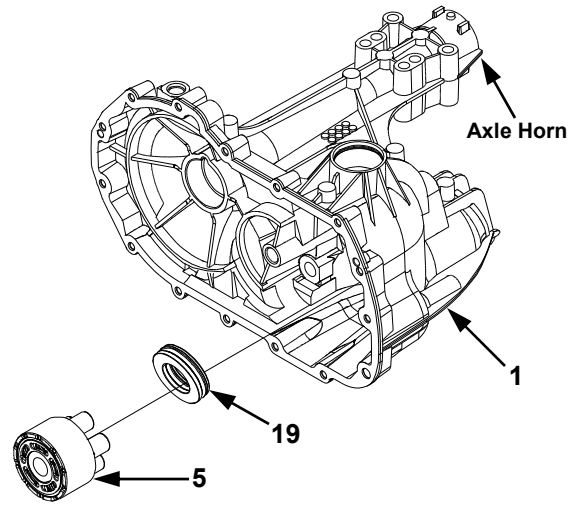

Figure 22
20. **(See Fig. 22)** Remove the motor cylinder block assembly (5) from the housing (1).
21. Disassemble the motor cylinder block assembly (5). Check each piston for proper operation by pressing the pistons in and releasing them in the block bore. Disassemble the motor cylinder block. Check for piston/block wear in the cylinder bore. Inspect the pistons, piston springs and piston
1. (See Fig. 22) Turn the housing (1) so the axle horn is pointing down. This will assist in the installation of the thrust bearing assembly (19) keeping it in the bearing cavity during installation of the center section assembly.
2. Insert the thrust bearing (19) in the housing (1). NOTE: Place the thin race of the bearing towards the housing bearing cavity. The thick race must face the pistons.